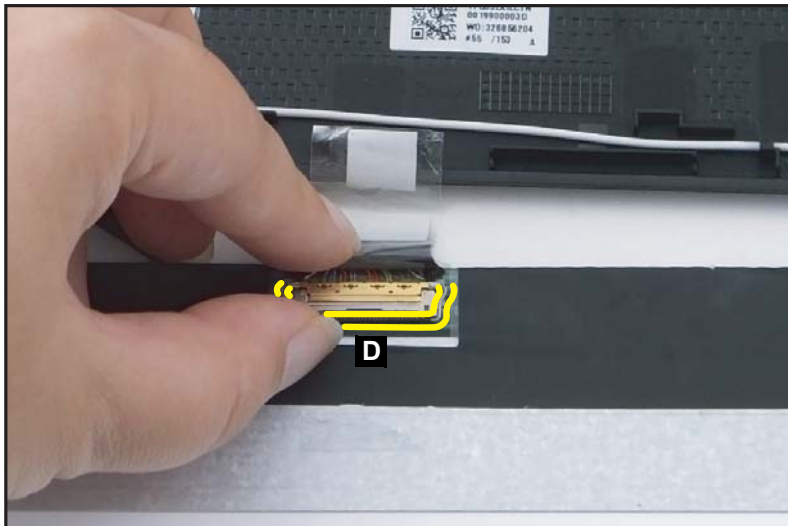

Figure 1-56. LCD Panel Removal
- Lift the latch (D) securing the eDP cable (Figure 1-56).